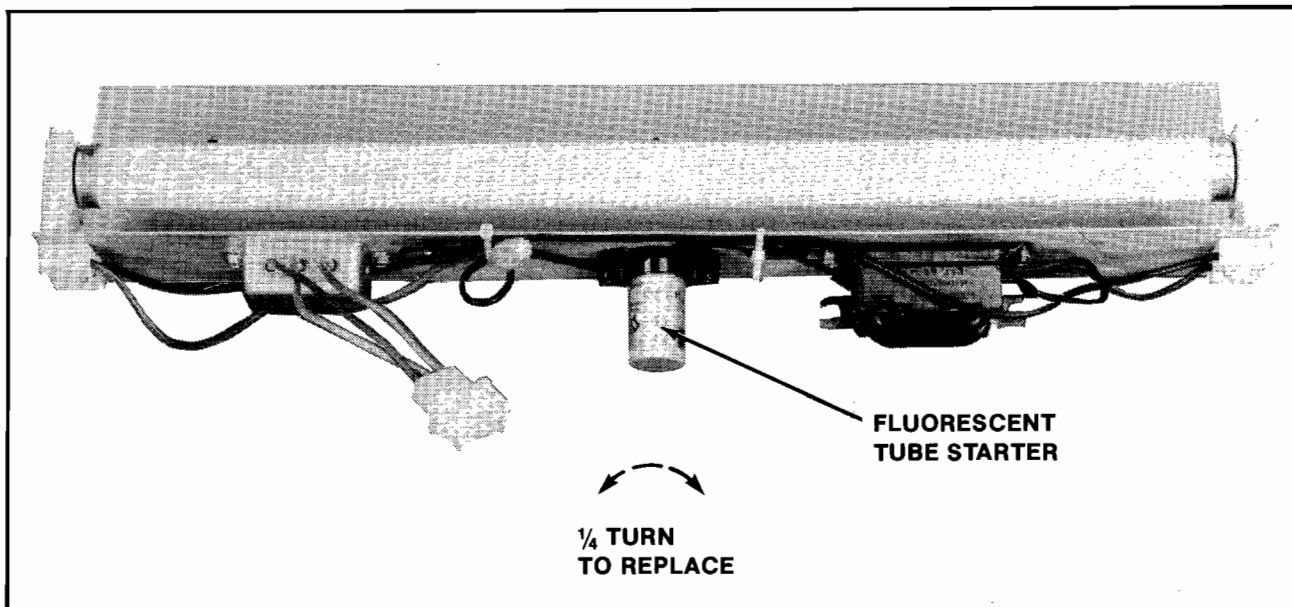

Figure 2-16 Replacing Fluorescent Tube Starter
**WARNING:** If you drop a fluorescent tube and it breaks, IT WILL IMplode! Shattered glass can fly six (6) feet or more from the implosion. Use care when replacing any fluorescent tube.
- Replacing the fluorescent light tube starter. See Figure 2-16.